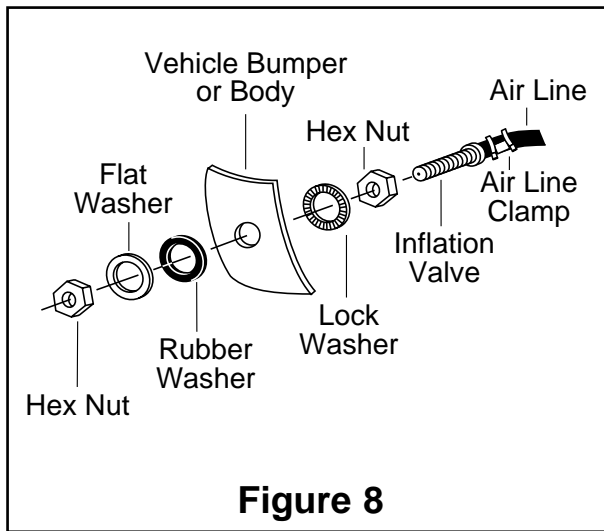

Figure 8
- J. Drill a 5/16" hole for inflation valve and mount as in illustration (Figure 8). Rubber washer is for outside weather seal.
- F. Drill 5/16" hole for inflating valves and mount as illustrated. Rubber washer is for outside weather seal (Figure 8).